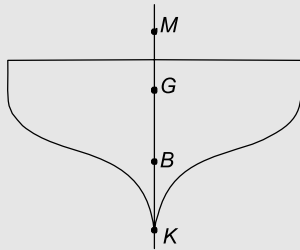

Figure 23.15
KB = vertical distance of the centre of buoyancy (B) above the keel (K) = 1.2 m (see Figure 23.15),